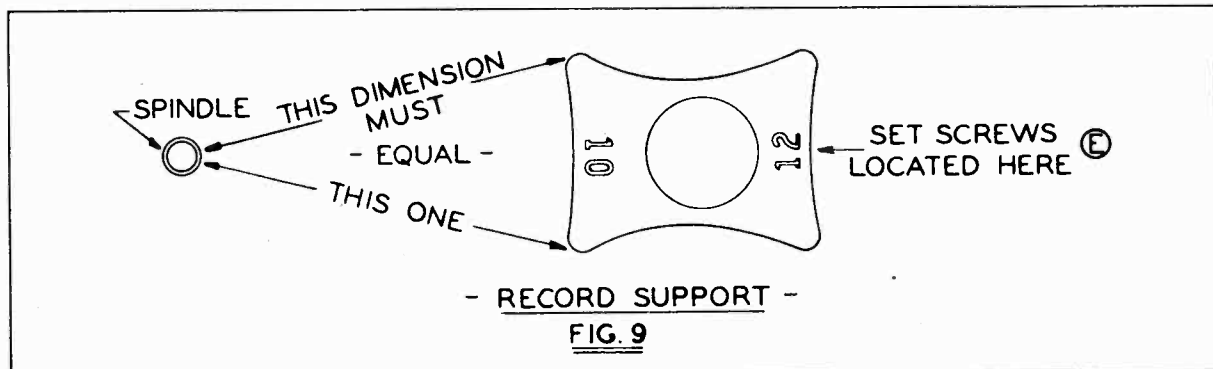

FIG. 9
the lip of the platform at all points. (See Fig. 9.)
4. If one point on the lip extends farther than the other, the position of the record support may be adjusted after loosening the two Bristo set screws (E), located directly under the numeral "12" on the record support. (See Fig. 9).